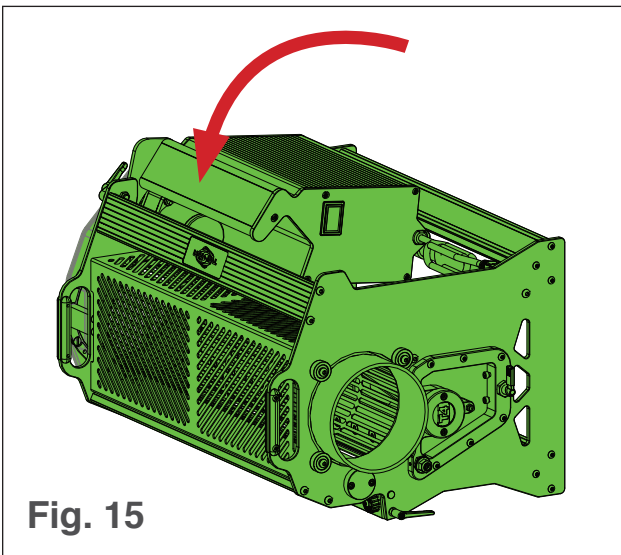

Fig. 15
2. Carefully rotate the T4 onto its side so it rests on the adjustment bar (see Fig. 15).